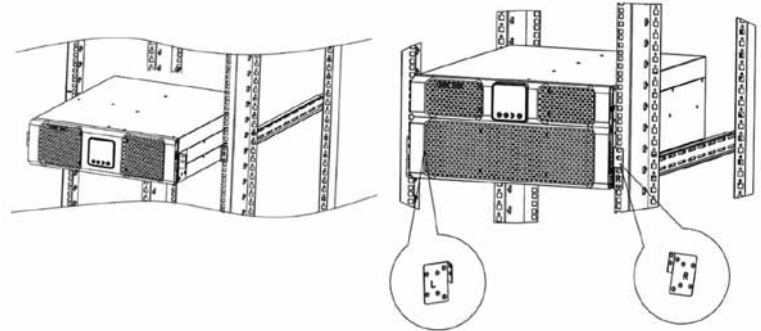

Fig. 4: Left, the mounting of a Protect D. 6000, right, an illustration of a Protect D. 10000 with details of the side-mounting brackets
4. Now fasten the two brackets that come with the device to the side of the UPS and, if using, an external battery unit according to Fig. 4. Make sure to put the bracket marked "L" on the left and the one marked "R" on the right hand side. Next, above the rack rails fastening on the cabinet front posts attach a further cage nut for final mounting of the UPS unit on the mounting brackets.